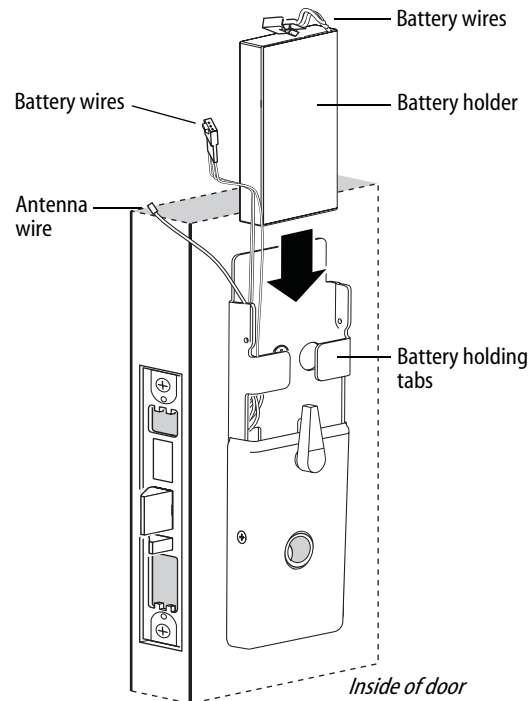

Figure 14 Installing the battery holder
- 1 Position the battery wires against the fire plate side wall, as shown in Figure 14.